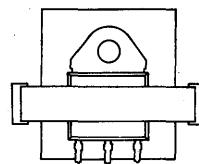

Fig. 2c Position
3. Push down the clip over the device until the long end of the clip snaps into the wide slot in the heatsink. The clip should bear on the plastic body, not on the tab (see Fig. 2c). There should be minimum 3 mm distance between the device and the edge of the insulator for adequate creepage.